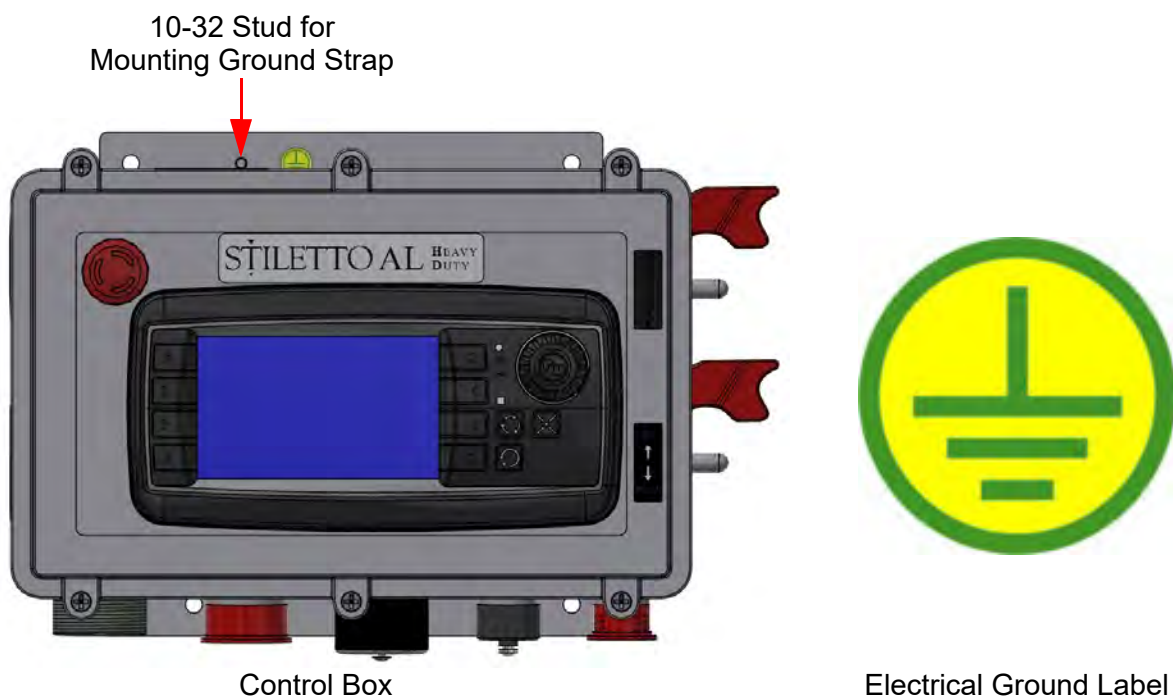

Figure 5-7 Control Box Ground Location
3. Use 10-32 UNF-2B hardware and a Ground Strap to ground the Control Box from the designated ground location (Figure 5-7) to the chassis of the vehicle or a known earth ground. The ground location on the Control Box is designated with the electrical ground label. Torque the ground strap hardware to 24-31 in.-lb. (2.7-3.5 N-m).